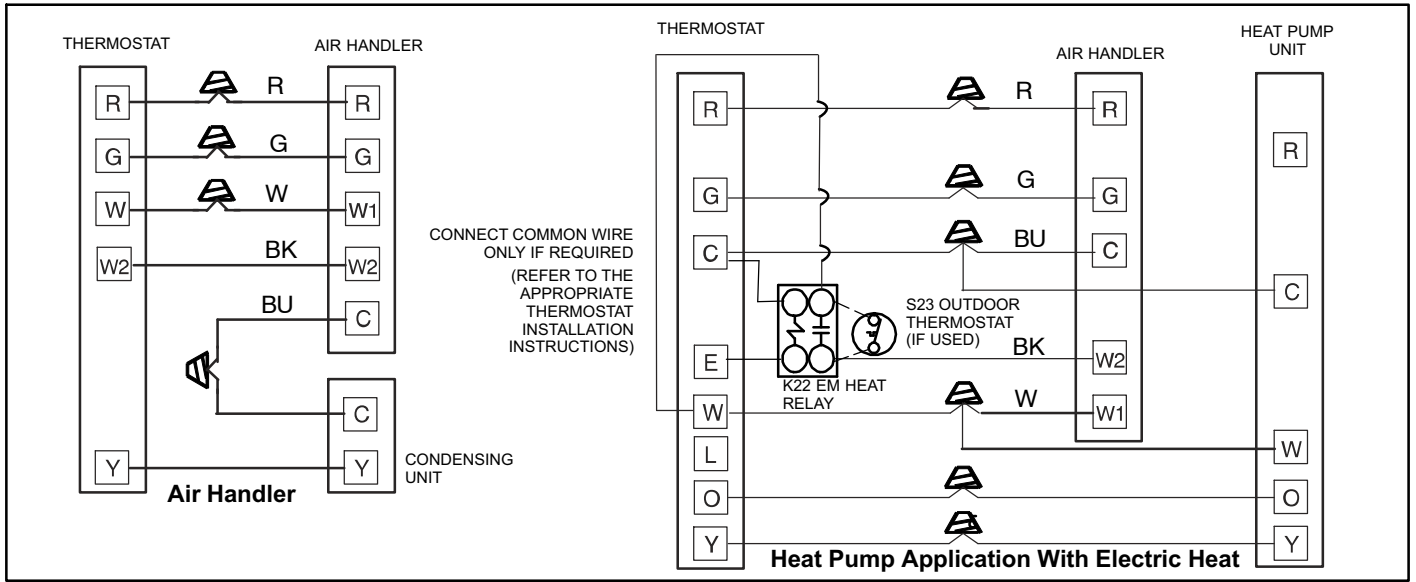
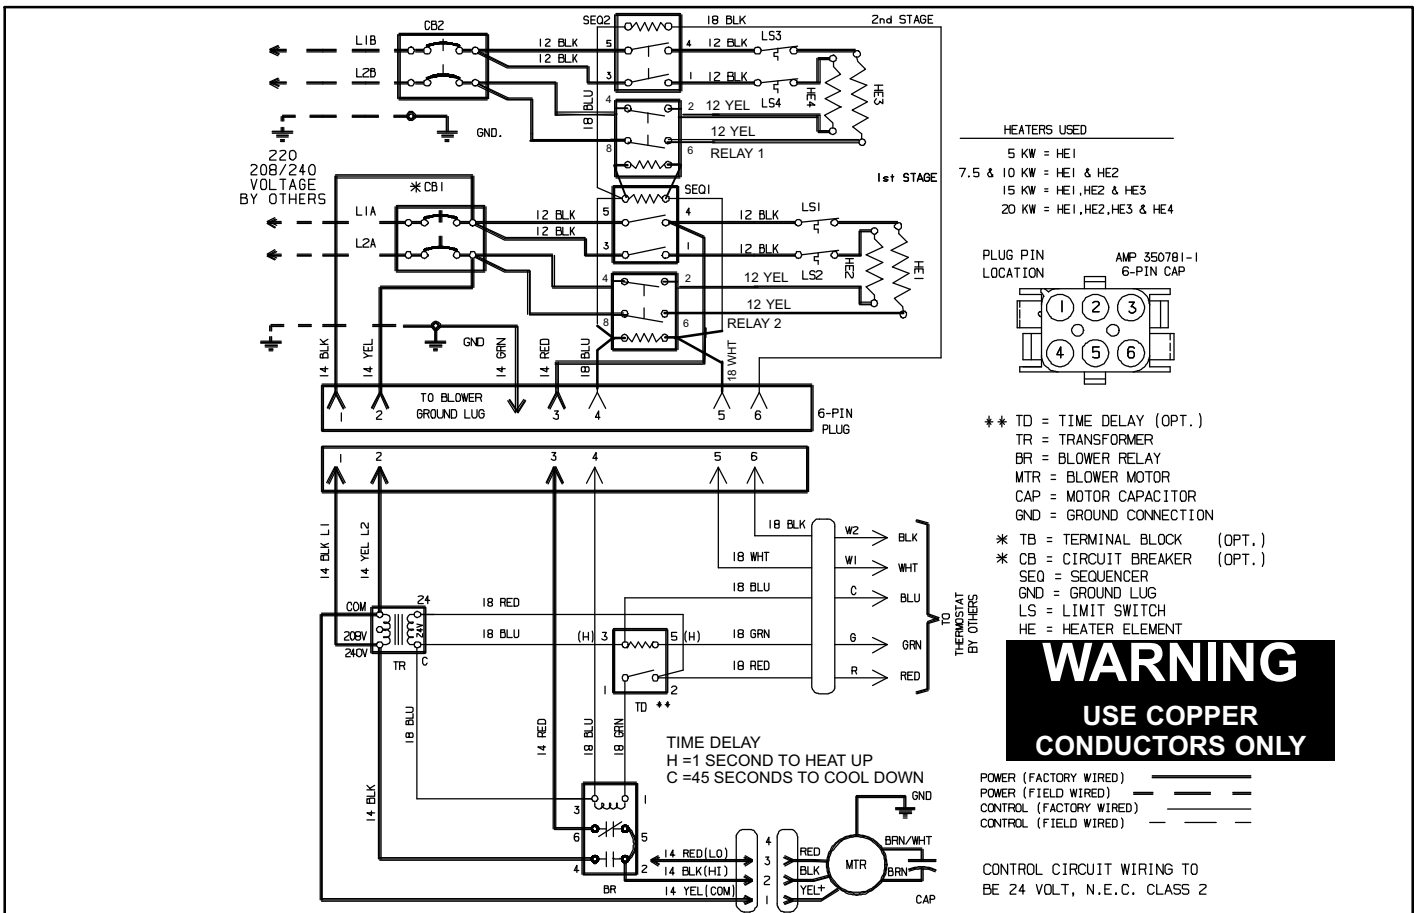

Figure 5. Low Voltage Field Wiring Electric Heat
Figure 8. Field Wiring Diagram - Electric Heat and Air Handler
Refer to figure 5 for typical low voltage field wiring for air handler/condensing unit and heat pump applications. Figure 8 is a diagram of the air handler connections and the heater elements high-voltage wiring.
3. For applications using a two-stage room thermostat and/or an outdoor thermostat, connect wiring as shown in figure 5.